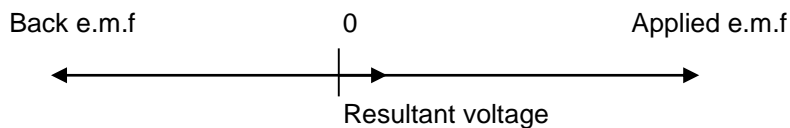

Figure 47
41. The method of determining the direction of motion of a current carrying conductor in a magnetic field is by the use of the LEFT HAND MOTOR RULE, as shown in Figure 47.